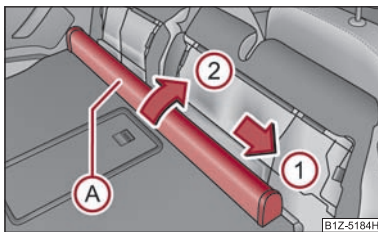

Fig. 64 Rear seats: Net partition housing
- Push the net partition housing  ⇒ fig. 64 in the direction of arrow  and take it out of the mount of the rear seats in the direction of arrow .